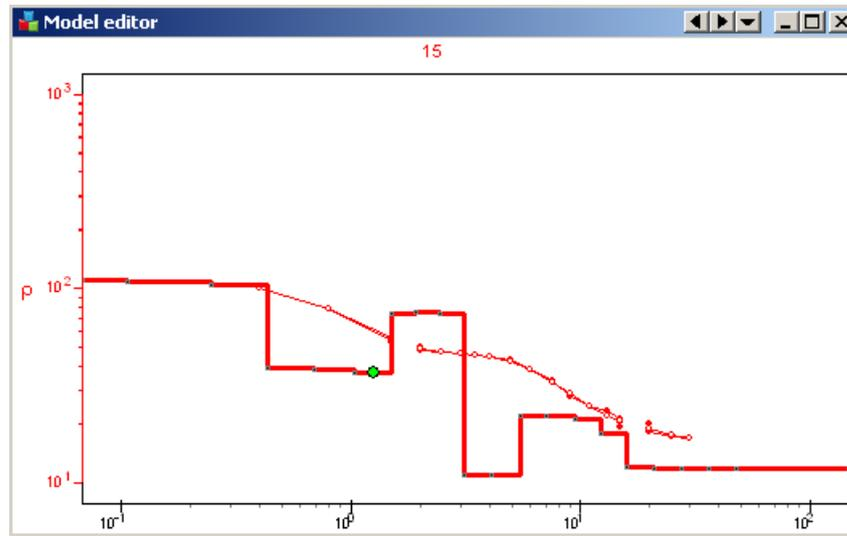

Fig. 26 Example of multilayered model
**Layers summarization** dialog is used to convert multilayered models obtained by *Smooth* or *Focused* inversion into simpler geological models which contain less layers. Multilayered model which consists of 14-20 layers is convenient at the beginning of interpretation (fig. 26).